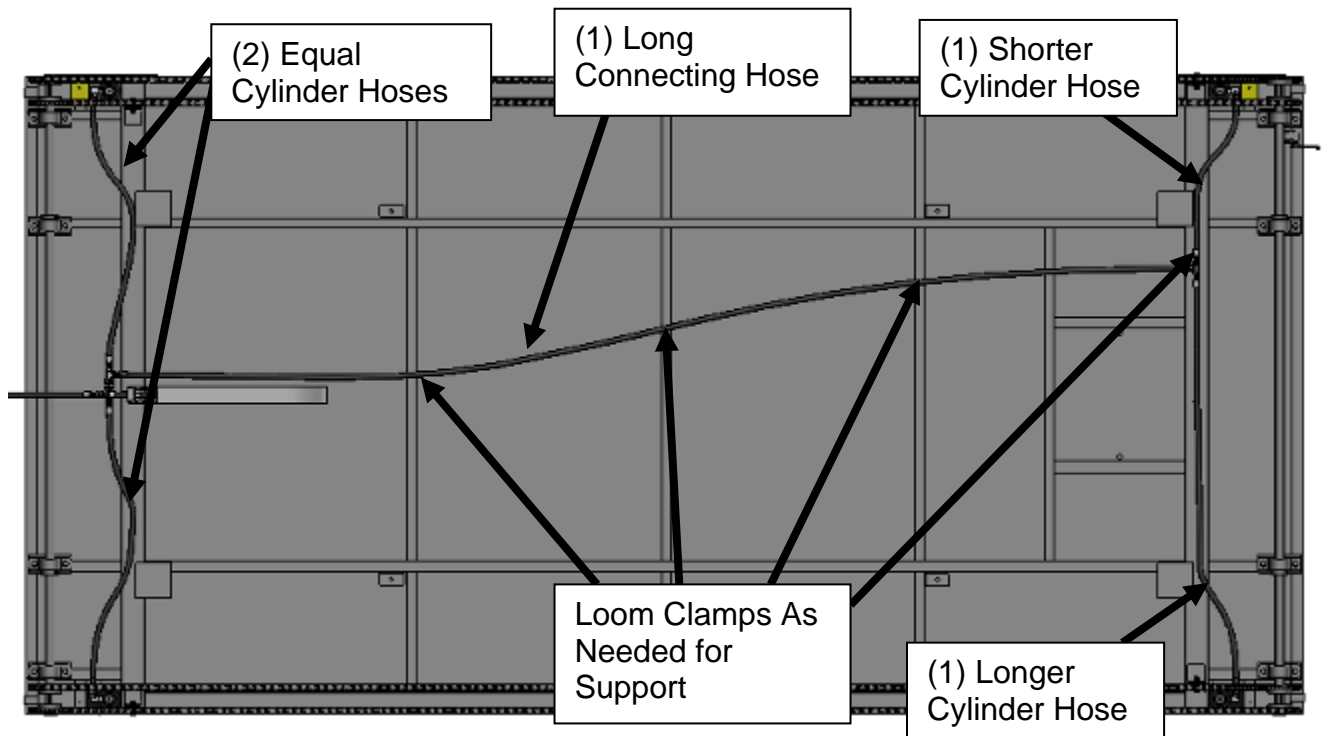

Figure 27 Mounting of Hose Beneath Carriage
- 3. Install the one (1) 186”L (approx.) 1/2” hose and the four (4) shorter 1/2” cylinder hoses beneath the carriage as shown in **Figure 27** using the fittings and hose clamps provided. Install all hoses, tees and union underneath carriage by: